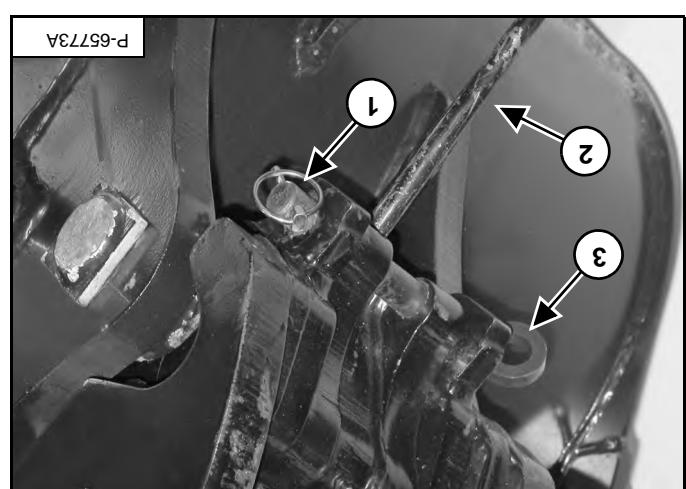

Figure 132
Remove the retainer pin (item 1) [Figure 132].